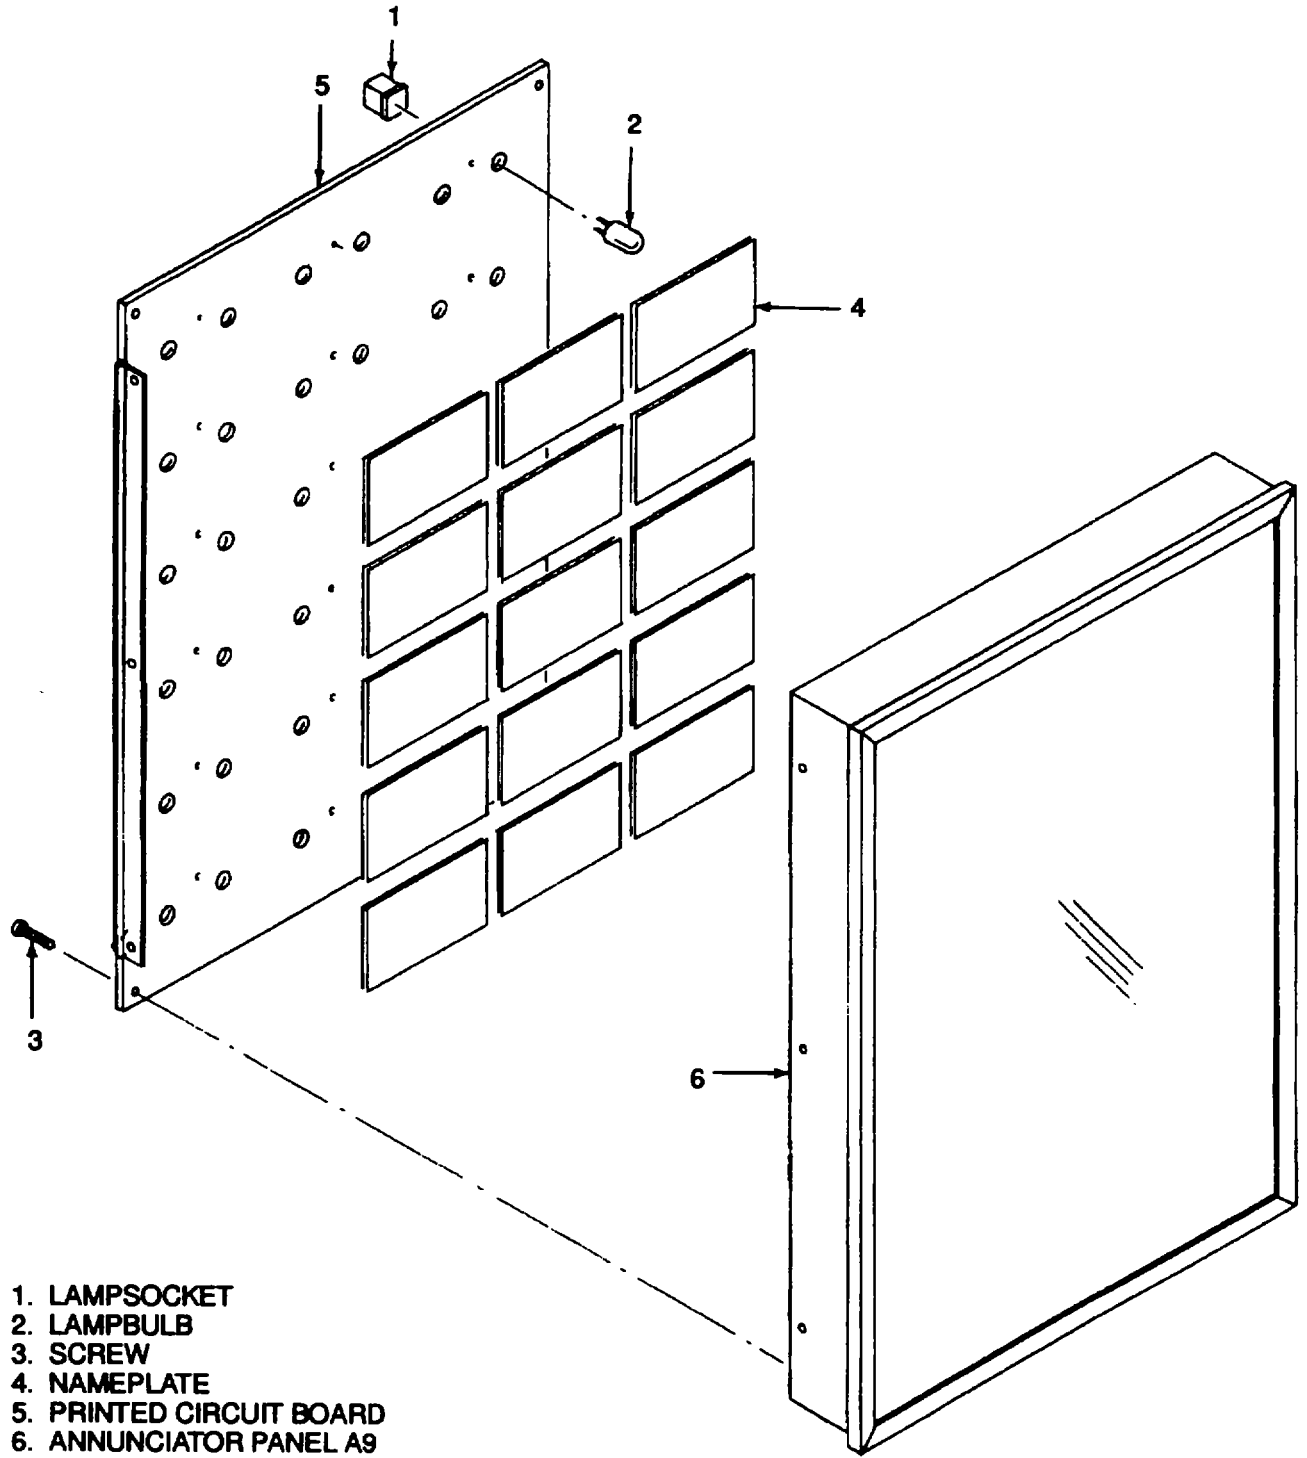

Figure 10-2. Annunciator Panel A9, Exploded View
- c. Annunciator Panel A9 Repair. When troubleshooting indicates an annunciator panel A9 failure, refer to Figure 10-2 and accomplish repair as follows:
- (1) To replace defective lampbulb (2), remove lampsocket (1) from back of the printed circuit board (5), remove and discard lampbulb (2), install good lampbulb in lampsocket (1), and install lampsocket (1) into back of printed circuit board (5).
- (2) To replace or change nameplates (4), proceed as follows: (a) Remove screws (3) from comers of printed circuit board (5).
- (a) Open printed circuit board (5) on its hinge, like a door.
- (b) Remove and replace nameplates (4), as required.
- (c) Close printed circuit board (5) on its hinge, like a door.
- (d) Install screws (3) in comers of printed circuit board (5).